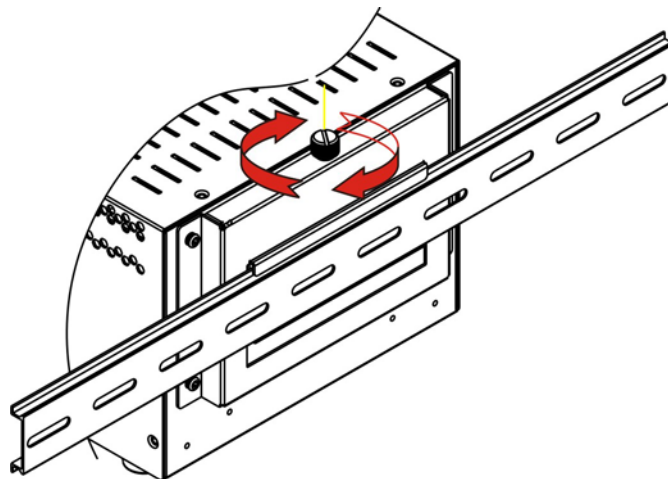

Figure 4-11: Secure the Assembly to the DIN Rail
Step 4: Secure the DIN rail to the mounting bracket by turning the top screw clockwise. This draws the lower clamp up and secures the embedded system to the DIN rail (**Figure 4-11**).